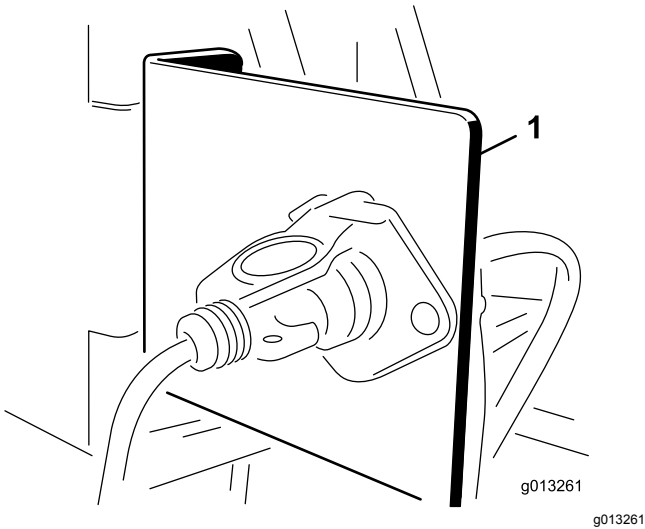

Figure 8
1. Mount the socket bracket to a fixed point at the rear of the tow vehicle using 1 of the mounting brackets provided (Figure 8).